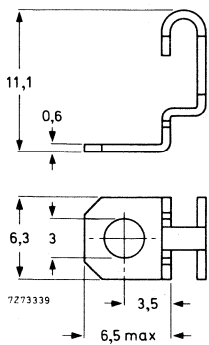

Fig. 3a. Metal mounting bracket
- metal bracket for panel mounting, catalogue number 4332 026 00760, Fig. 3a;